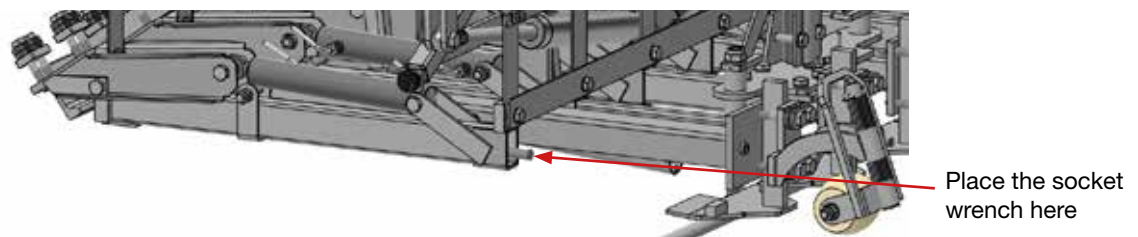

Fig. 82. Replacing the compression spring of the gripper arm
3. Place the long socket nut of the special tool onto the threaded spindle (see Fig. 82).